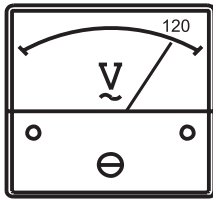

Figure 8. Voltmeter
6. The generator's **AC voltmeter** (Figure 8) will display the generator's output in **VOLTS**.